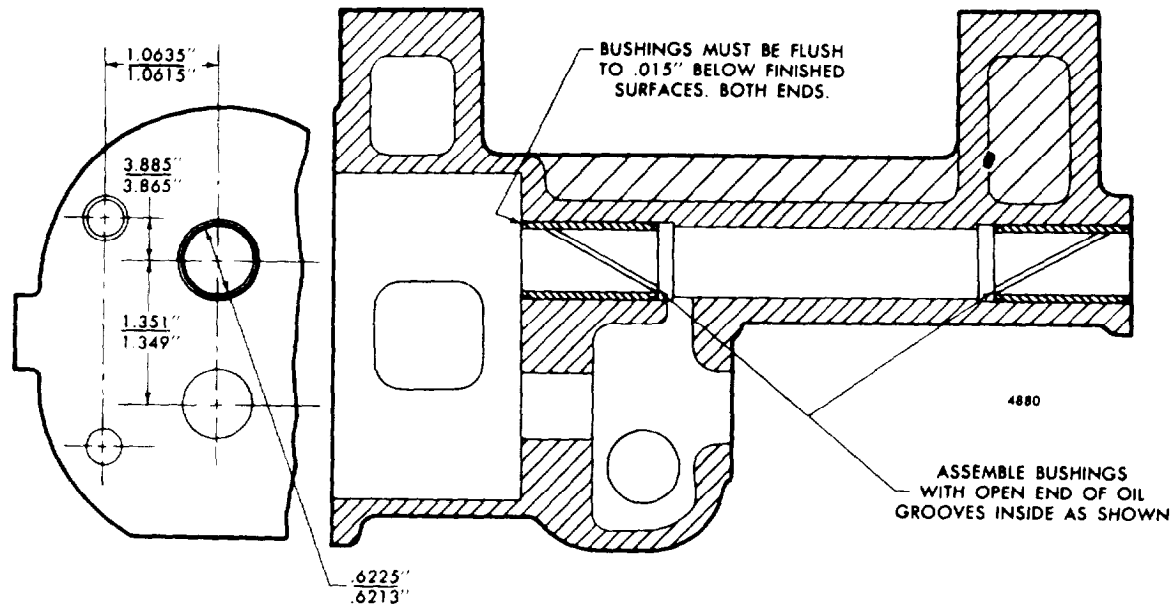

Figure 11E-7. Diameter and Location of Bushing in Oil Pump
Refer to Figure 11E-4 on page 11E-5 and assemble the oil pump as follows:
1. If the drive gear (23) was removed from the drive shaft (13), insert the Woodruff key (14) in the keyway and apply a light coat of engine oil on the shaft. Start the shaft squarely into the bore of the gear and, as shown in Figure 11E-7, press the shaft into the gear.
The gear must be  $6\frac{15}{16}$ " from the keyway end of the drive shaft (Figure 11E-8).